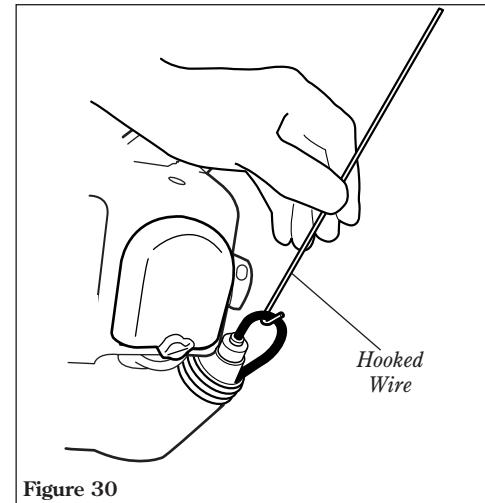

Figure 30
- Use a hooked wire to extract the fuel filter from inside the fuel tank. See Figure 30.